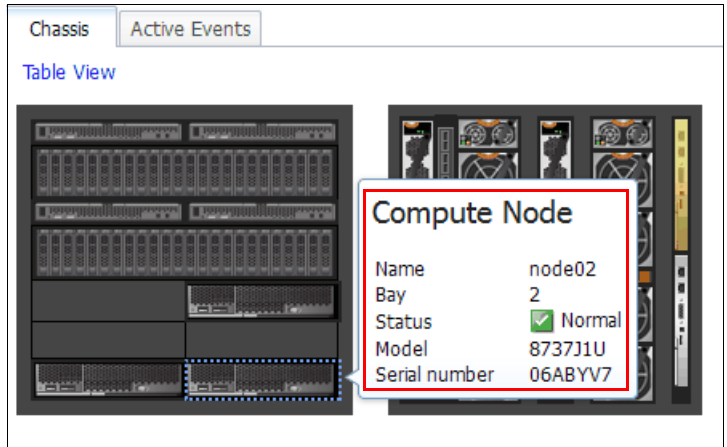
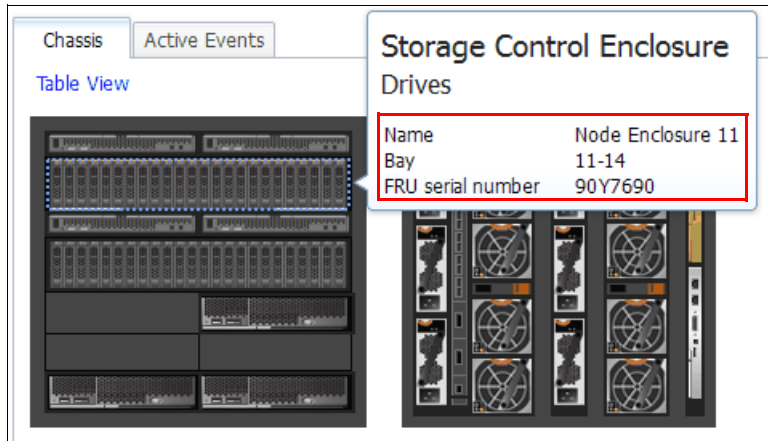

Figure 13-26 CMM Chassis Map - node canister status information
Figure 13-27 CMM Chassis Map - drive status information
3. Hover the mouse over a component to view information about it, as shown in Figure 13-26 and Figure 13-27.